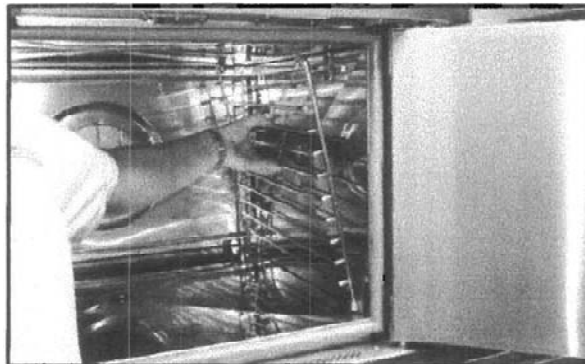

Figure 10 Oven Support Rack Removal
2. Remove the side support racks from the inside of both the upper and lower oven sections. See Figure 10.